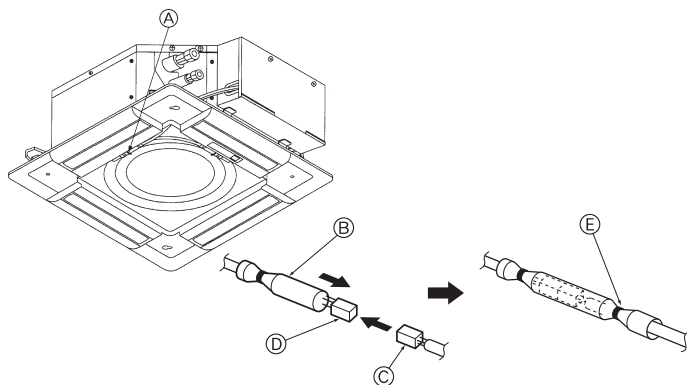
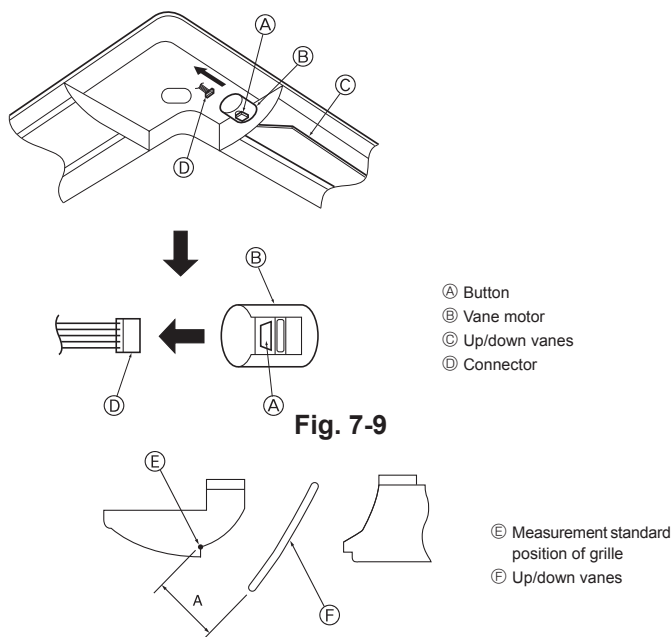

Fig. 7-8
Fig. 7-9
7.3.4. Wire connection (Fig. 7-8)
- (A) Fastener (Accessory)
- (B) White glass tube
- (C) Connector of the main unit
- (D) Connector of the grille
- (E) Band (Accessory)
7.4. Locking the up/down airflow direction (Fig. 7-9)